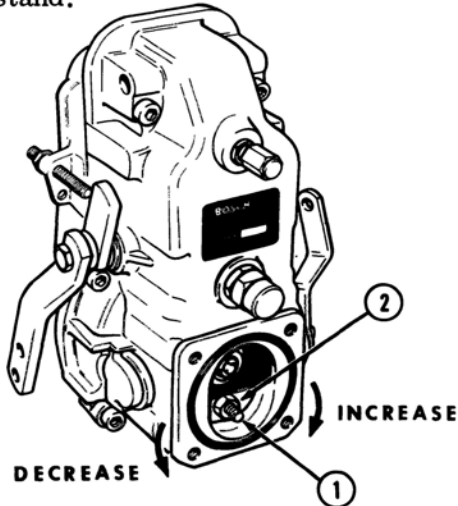

Figure 15
2. When making this adjustment turn the full load delivery screw (1), Figure 15, counter-clockwise in small increments
3. If there is a lack of power and no haze or smoke is visible when running under full load at rated speed, it is an indication that the full load delivery screw (1) has been turned counter-clockwise too far. This decreases the amount of fuel to the engine.
4. Turn the full load delivery screw (1), Figure 15, clockwise in small increments of 5 degrees or less, until a light brown haze is visible and no lack of power exists when running under full load at rated speed and normal operating temperature.
5. After each adjustment is made tighten the locknut (2), Figure 15, while keeping the full load delivery screw (1) from turning. Install rear cover, bolts and reseal the rear cover.